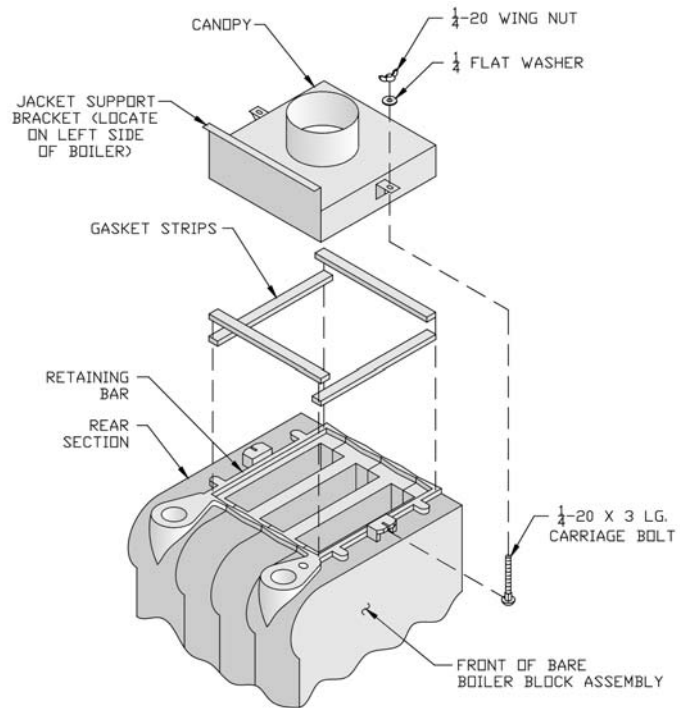

Figure 4: Boiler Canopy Installation
with gasket and hardware provided to ensure gas tight seal — see Figure 4.
1. Cut two (2) strips 13 3/4" long from the roll of gasket insulation. Place one (1) strip across the top of the front section and the other across the rear section as shown in Figure 4.
2. Cut the remainder of the roll into two (2) equal pieces. Place each piece along the sides, allowing the ends to overlap the front and rear pieces.
Jacket support bracket must be facing left side of boiler - see Figure 4. Jacket will not fit if bracket is not oriented correctly.